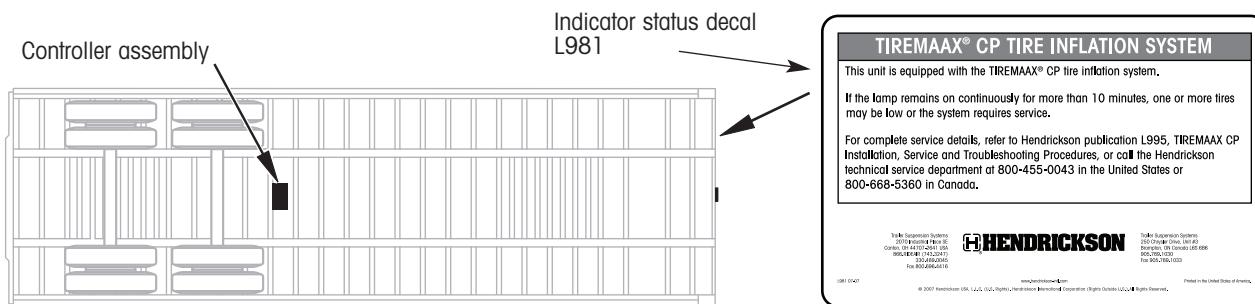

Figure 9. Recommended controller assembly mounting location and label placement
6. Remove the existing TIREMAAX EC indicator status decal, L861, from the front of the trailer near the indicator lamp (figure 9).